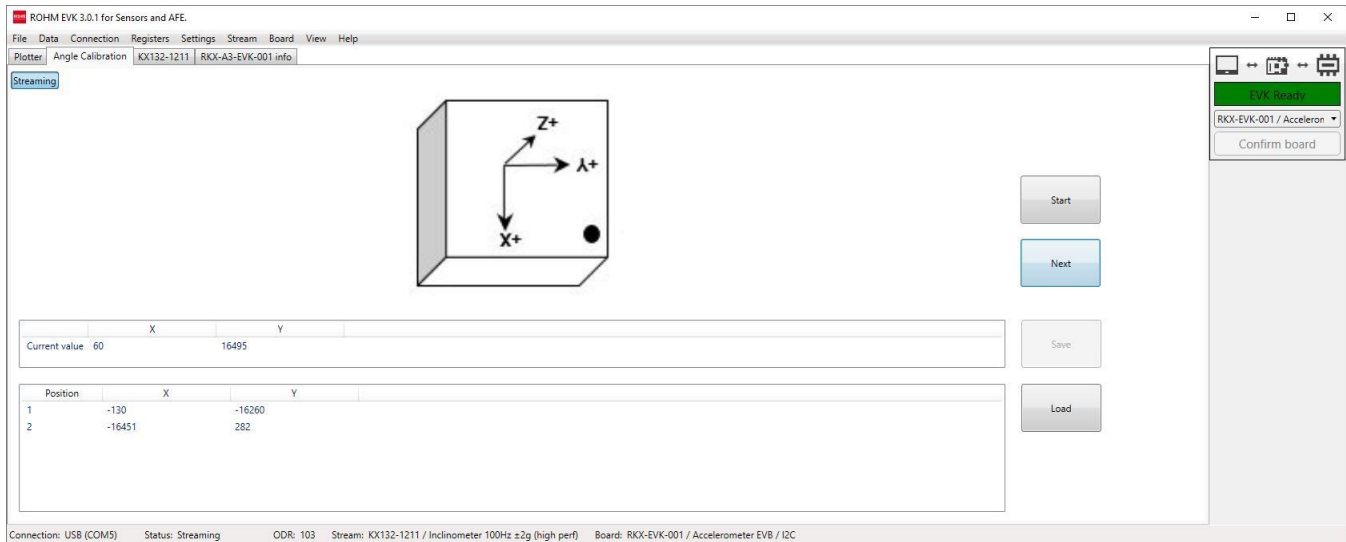

Figure 62. Angle Calibration. Position – 3
- Click Next and hold the device still until the diagram changes to the 3rd position (Figure 62)